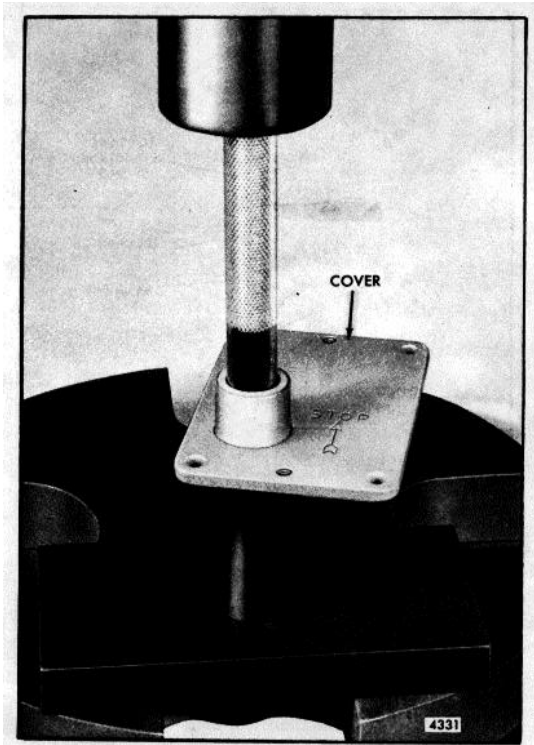

Fig. 4 - Removing Bearings from Cover using Tool J 21967-01
- e. If needle bearing or bushing removal is necessary, place the inner face of the cover over the opening in the bed of an arbor (Fig. 4). Place remover J 21967-01 on top of the bearing or bushing and